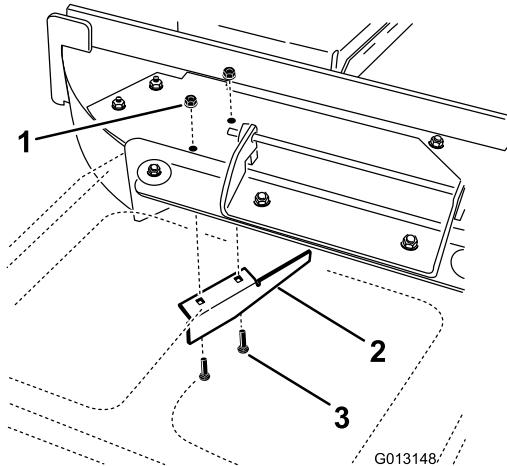

Figure 6
5. Locate the cut-off baffle at the side discharge opening on the mower deck (Figure 6).